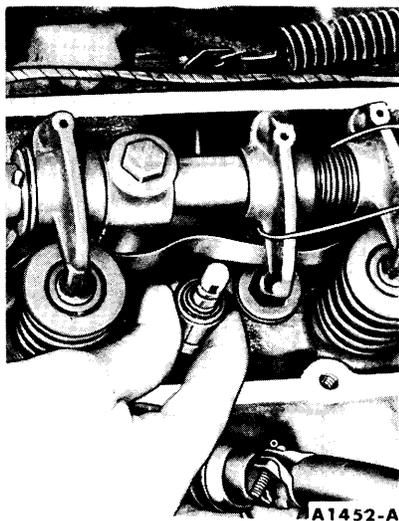

FIG. 44—Valve Stem Seal Removal
6. Remove the valve stem seal (Fig. 44).